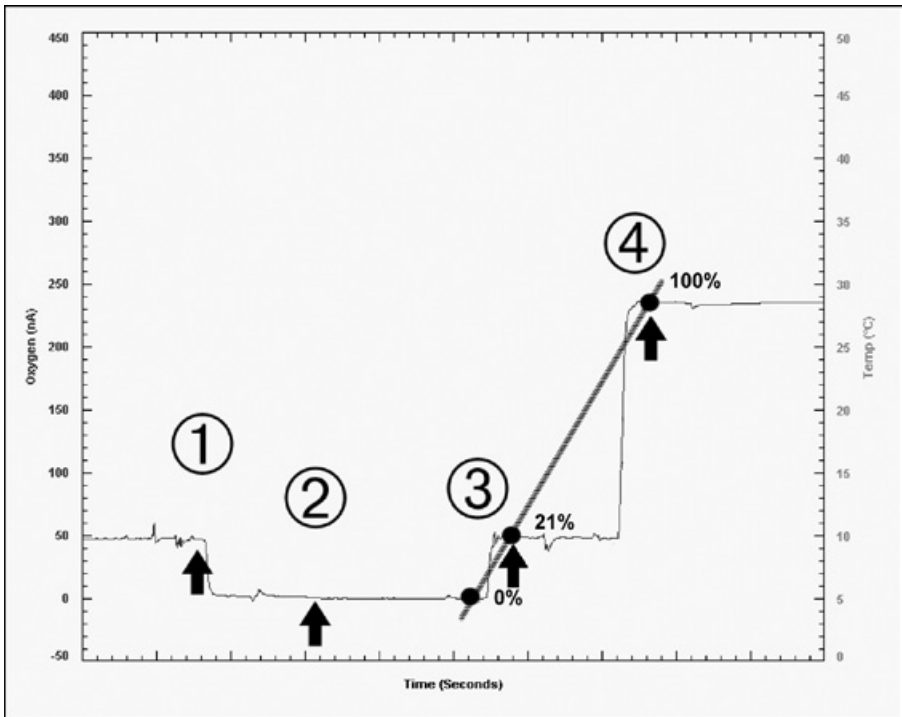

Fig. 4—Calibration record showing established baseline at point 1, 0% O₂ reading at point 2, baseline re-established at point 3, and 100% O₂ reading at point 4
8. Return the sensor to the 21% O₂ solution for at least five minutes. The oxygen measurements should return to the baseline value. The data should look similar to the graph in Fig. 4.